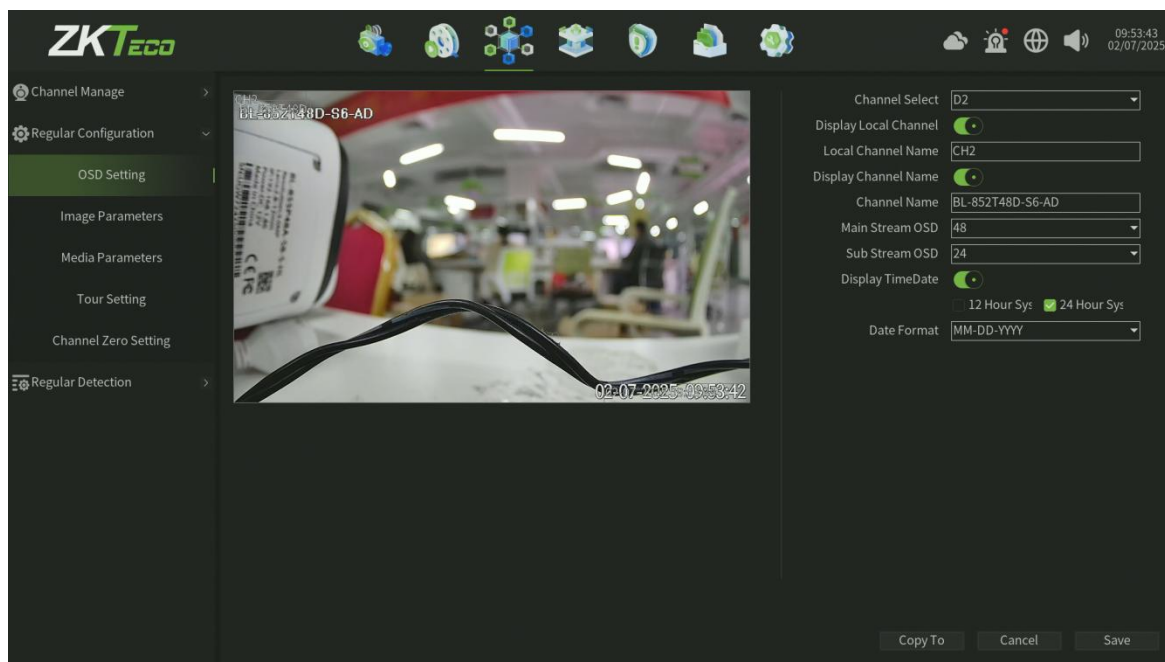

Figure 6.6 OSD Setting interface
1. Enter the OSD Setting interface. Click **Channel > Regular config > OSD Setting**, as shown in figure 6.6.